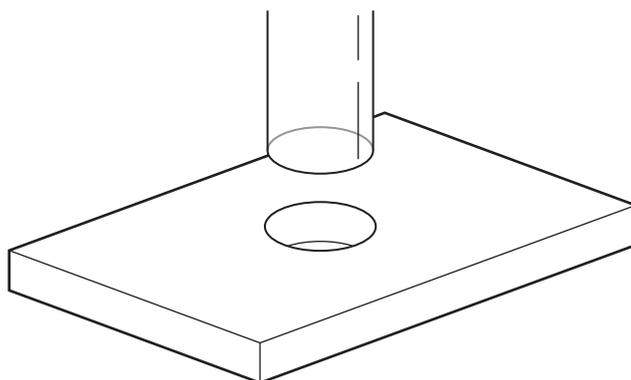

Fig. 1
- 3 State how the clear acrylic rod shown in Fig. 1 could be joined permanently to the base.